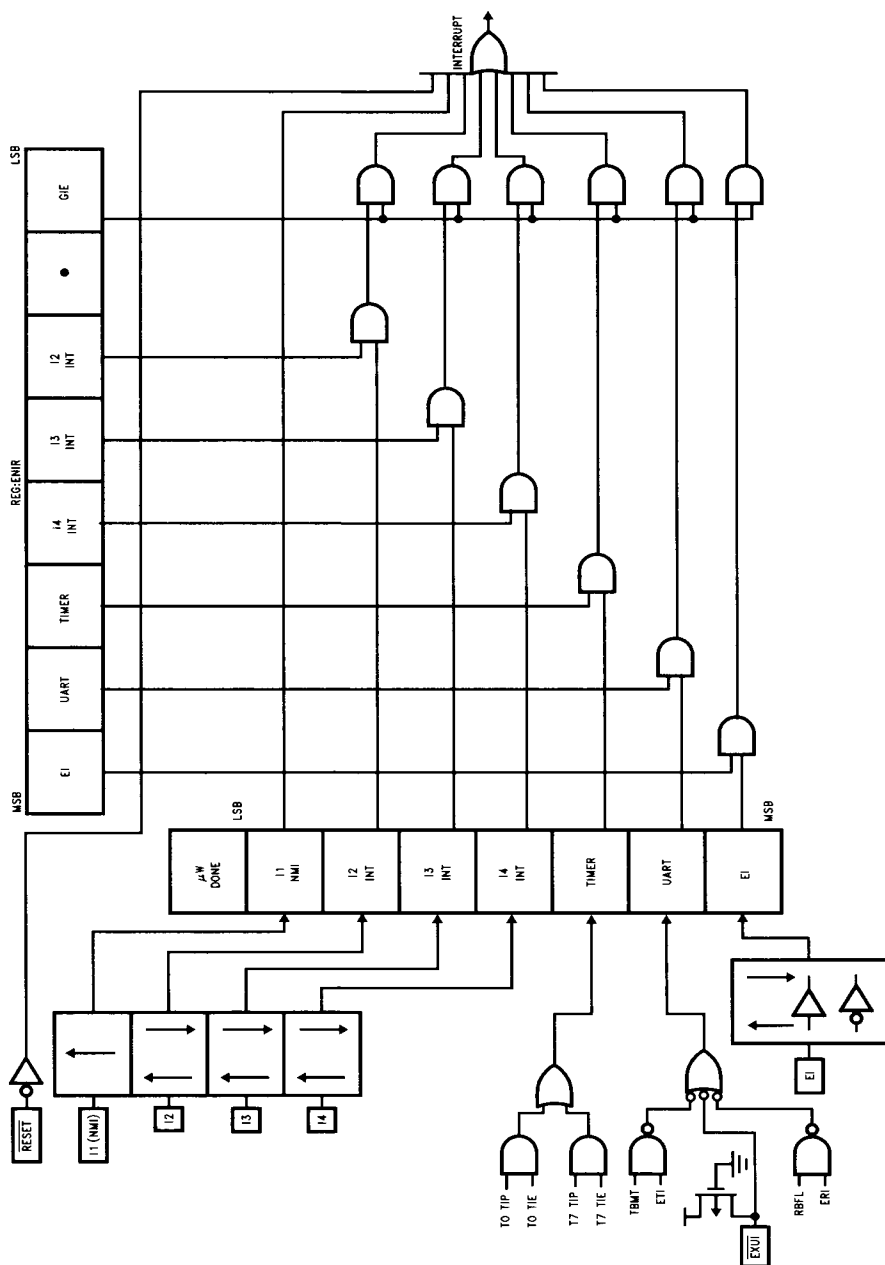

FIGURE 18. Block Diagram of Interrupt Logic
The Interrupt, once acknowledged, pushes the program counter (PC) onto the stack thus incrementing the stack pointer (SP) twice. The Global Interrupt Enable bit (GIE) is copied into the CGIE bit of the PSW register; it is then reset, thus disabling further interrupts. The program counter is loaded with the contents of the memory at the vector address and the processor resumes operation at this point. At the end of the interrupt service routine, the user does a RETI instruction to pop the stack and re-enable interrupts if the CGIE bit is set, or RET to just pop the stack if the CGIE bit is clear, and then returns to the main program. The GIE bit can be set in the interrupt service routine to nest interrupts if desired. Figure 18 shows the Interrupt Enable Logic.